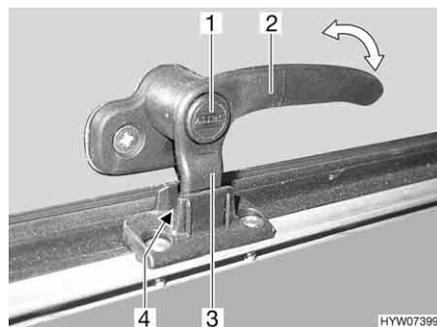
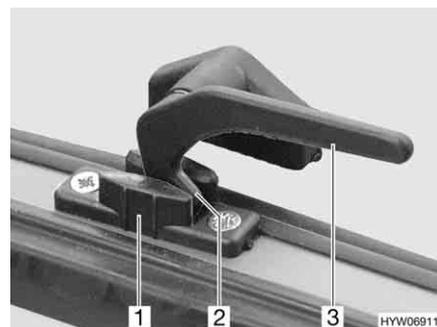

Fig. 60 Catch lever with safety knob in "continuous ventilation" position
Fig. 61 Catch lever in "continuous ventilation" position
- "Continuous ventilation" (Fig. 60 and Fig. 61)
- Press and hold the security button (Fig. 60,1), if present.
- Turn the catch lever (Fig. 60,2 or Fig. 61,3) a quarter turn towards the centre of the window.
- Return the catch lever to its initial position. Move the locking catch (Fig. 60,3 or Fig. 61,2) on the catch lever into the recess of the window catch (Fig. 60,4 or Fig. 61,1).